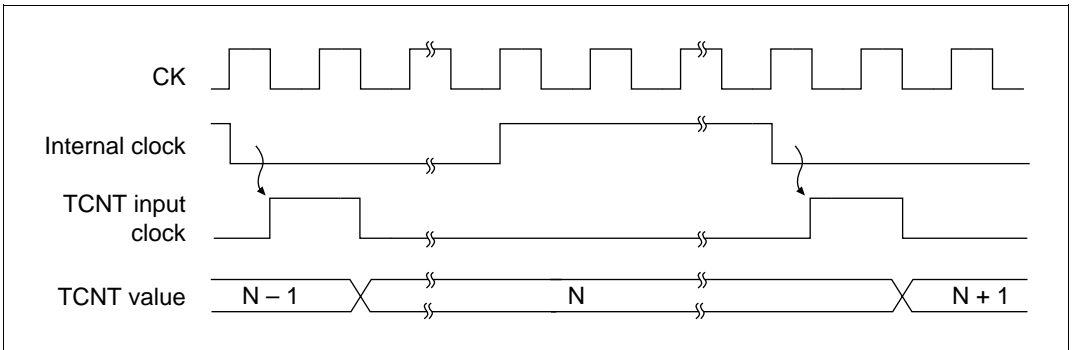

Figure 10.17 Count Timing for Internal Clock Sources
Internal clock source: Bits TPSC2–TPSC0 in the TCR select the system clock (CK) or one of three internal clock sources ($\phi/2$, $\phi/4$, $\phi/8$) obtained by prescaling the system clock. Figure 10.17 shows the timing.